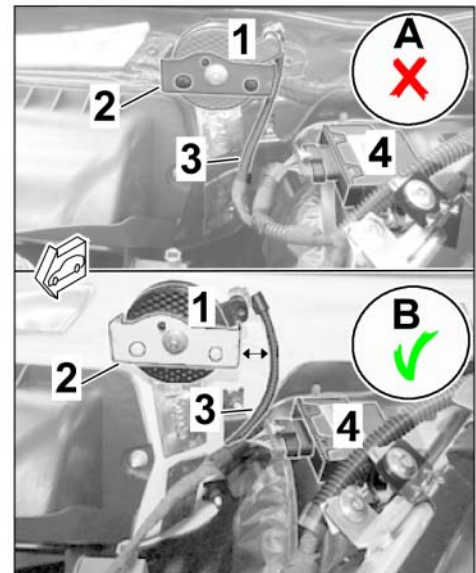

Figure 9
2.3.1 Connect electric plug connections for engine noise pulse sender (2-pin) and for engine noise control unit (6-pin) (⇒ *Figure 9*).